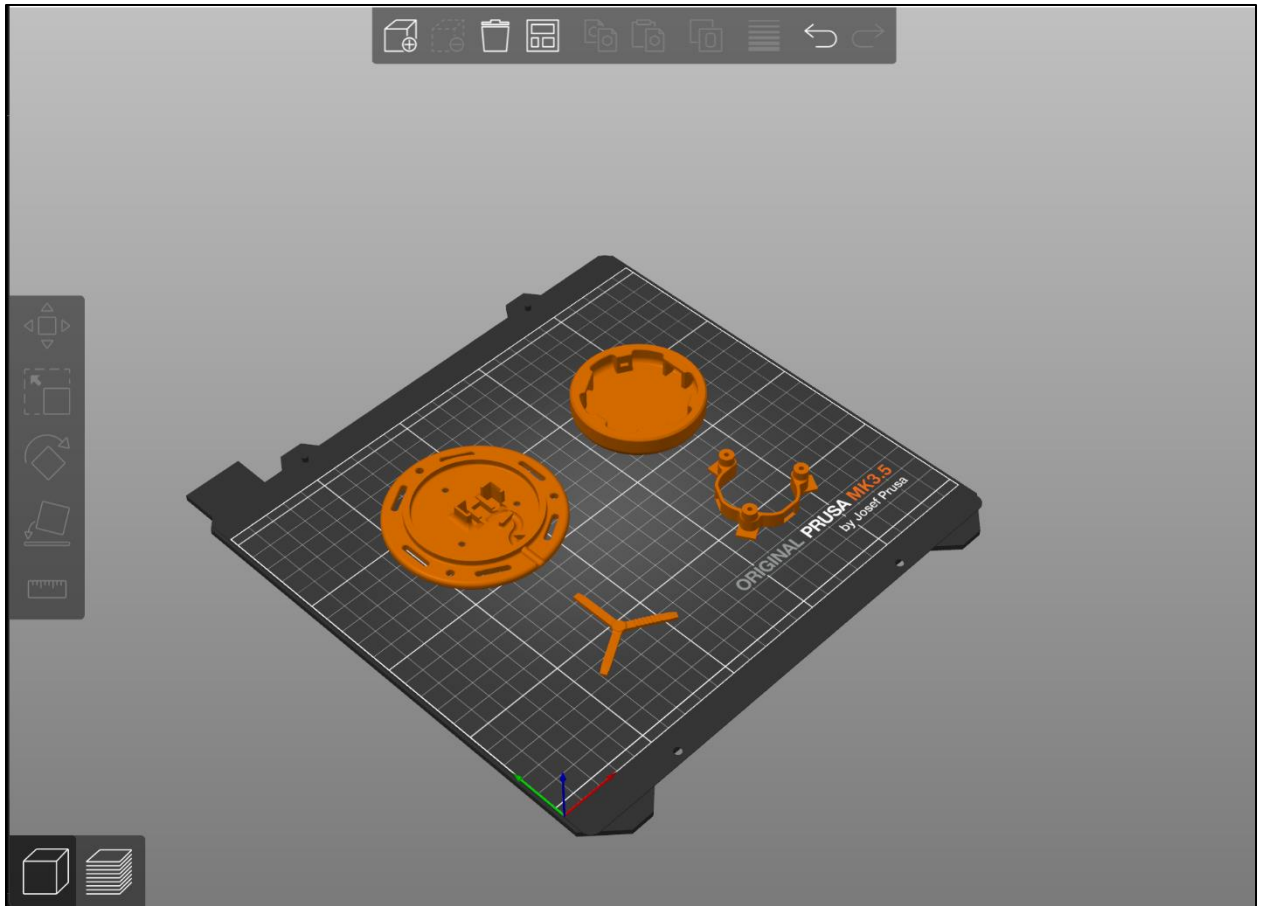

Figure 2: Suggested placement
- 4.) Go to the “Print Settings” tab in the top left corner of PrusaSlicer and change the number of perimeters to 4 (see red arrow in Figure 2). Then double-click on the “Infill” subtab (see blue arrow in Figure 2).